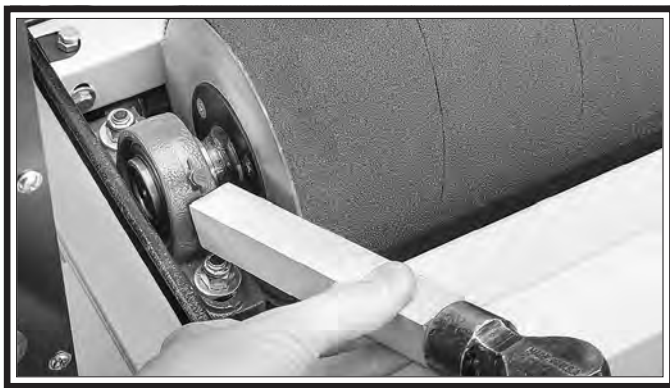

Figure 40. Example of tapping bearing block.
5. With a wooden dowel and hammer, gently tap bearing block in the direction it needs to move (see Figure 40).